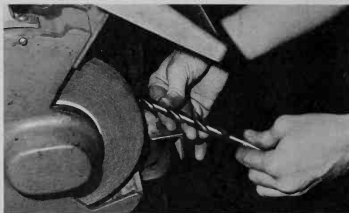

Fig. 4-46. The correct way to hold a drill for grinding.
1. Hold the drill near the point with your forefinger and thumb of one hand. Cradle the drill in the first joint of your forefinger and place the back of your finger on the tool rest. Grasp the drill shank with the thumb and forefinger of your other hand. Keep the drill shank to the left, and move the point forward so that one lip comes in contact with the grinding wheel, Fig. 4-46.